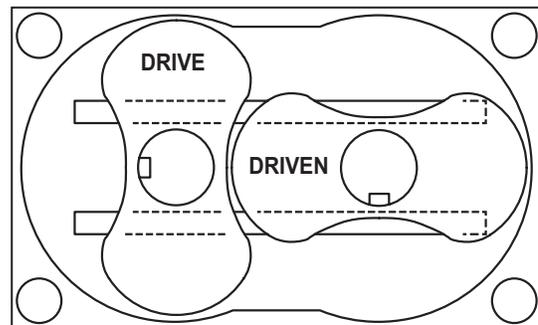

Figure 8 - Keyways
3. Place free end plate (4) with flat side up on a pair of 4x4's. The end plate must be blocked up so the rotor shafts will not touch the floor when they are installed. Do not install O-rings at this time. Set
- housing (3) in place, being sure dowel pins are installed. Do not bolt at this time.
4. Lay two pieces of 1/8" thick shims on the end plate at the bottom of the housing, parallel to the two rotor shaft bores. Set each rotor into position in the housing, with the gear end (long shaft) up. Face keyways in the direction shown in Figure 8. This will position the rotors so they will match the keyways in the gears. Because of the shims at the bottom of the housing, the rotor lobes will be above the end of the housing, which is necessary when assembling the gear end.
5. Grease four O-rings (233) and one O-ring (176) and install on gear end plate. Install end plate.
7. **Series 31/33/90/91** - Clean the lapped surface of the mating rings (76A) with soft tissue and acetone being careful not to nick or scratch the surface. Place a few drops of lubricating oil on the surface and on the O-ring and carefully slide over the rotor shaft while aligning the slot in the mating ring with the spring pin (300) in the rotor shaft.